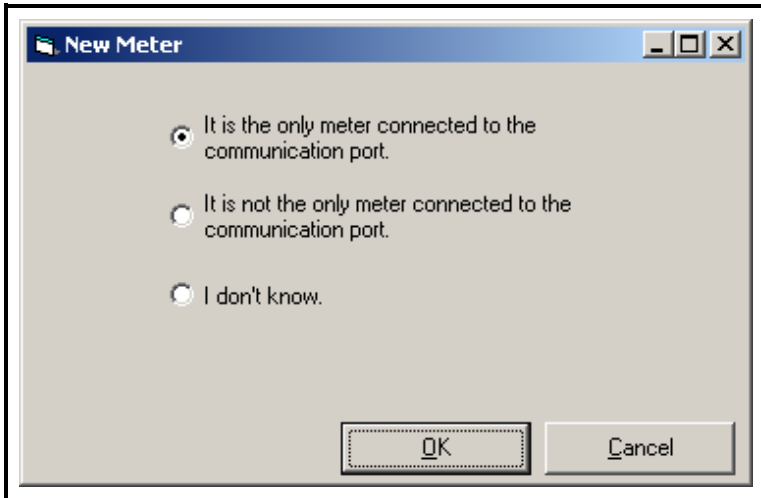

Figure 4-10: The Only Meter Dialog Box
6. After responding to the previous dialog box, the dialog box shown in Figure 4-10 below appears. In most instances, users connect their PC to one instrument only via a direct serial cable. Therefore, select the *“It is the only meter connected to the communication port”* radio button and then click on the [OK] option button.